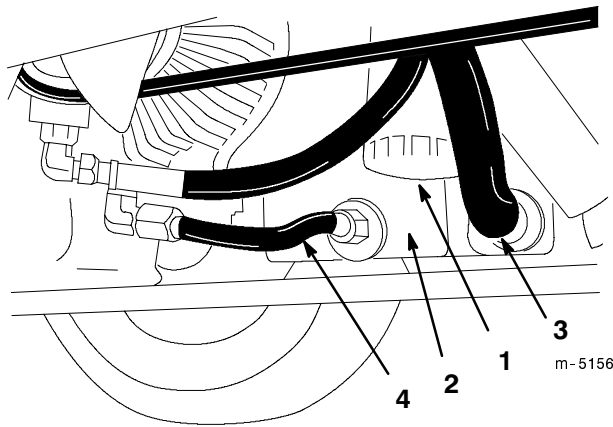

Figure 36
2. Clean the area around the hydraulic oil filter and remove the filter from the bottom of the filter housing, use bottom type filter wrench (Fig. 36).
3. Disconnect tube assembly and hose assembly from reservoir and allow the oil to flow into a drain pan (Fig. 36).
4. Install the new hydraulic filter onto bottom of the filter housing (Fig. 36).
5. Install the tube assembly and hose assembly to reservoir (Fig. 36).
1. Remove hydraulic oil filter from mounting head. Use bottom type filter wrench (Fig. 36). Dispose of filter properly.